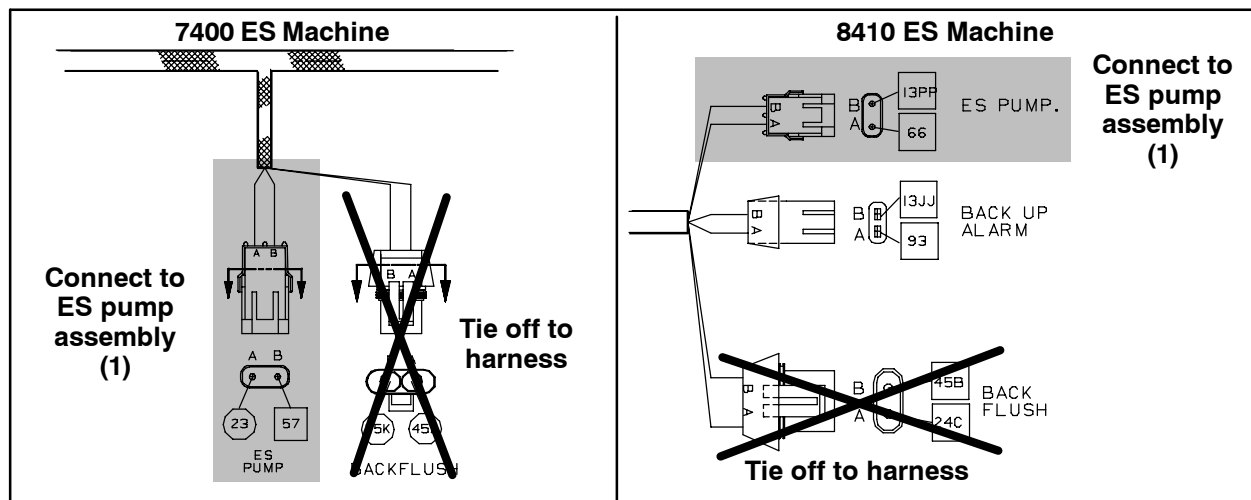
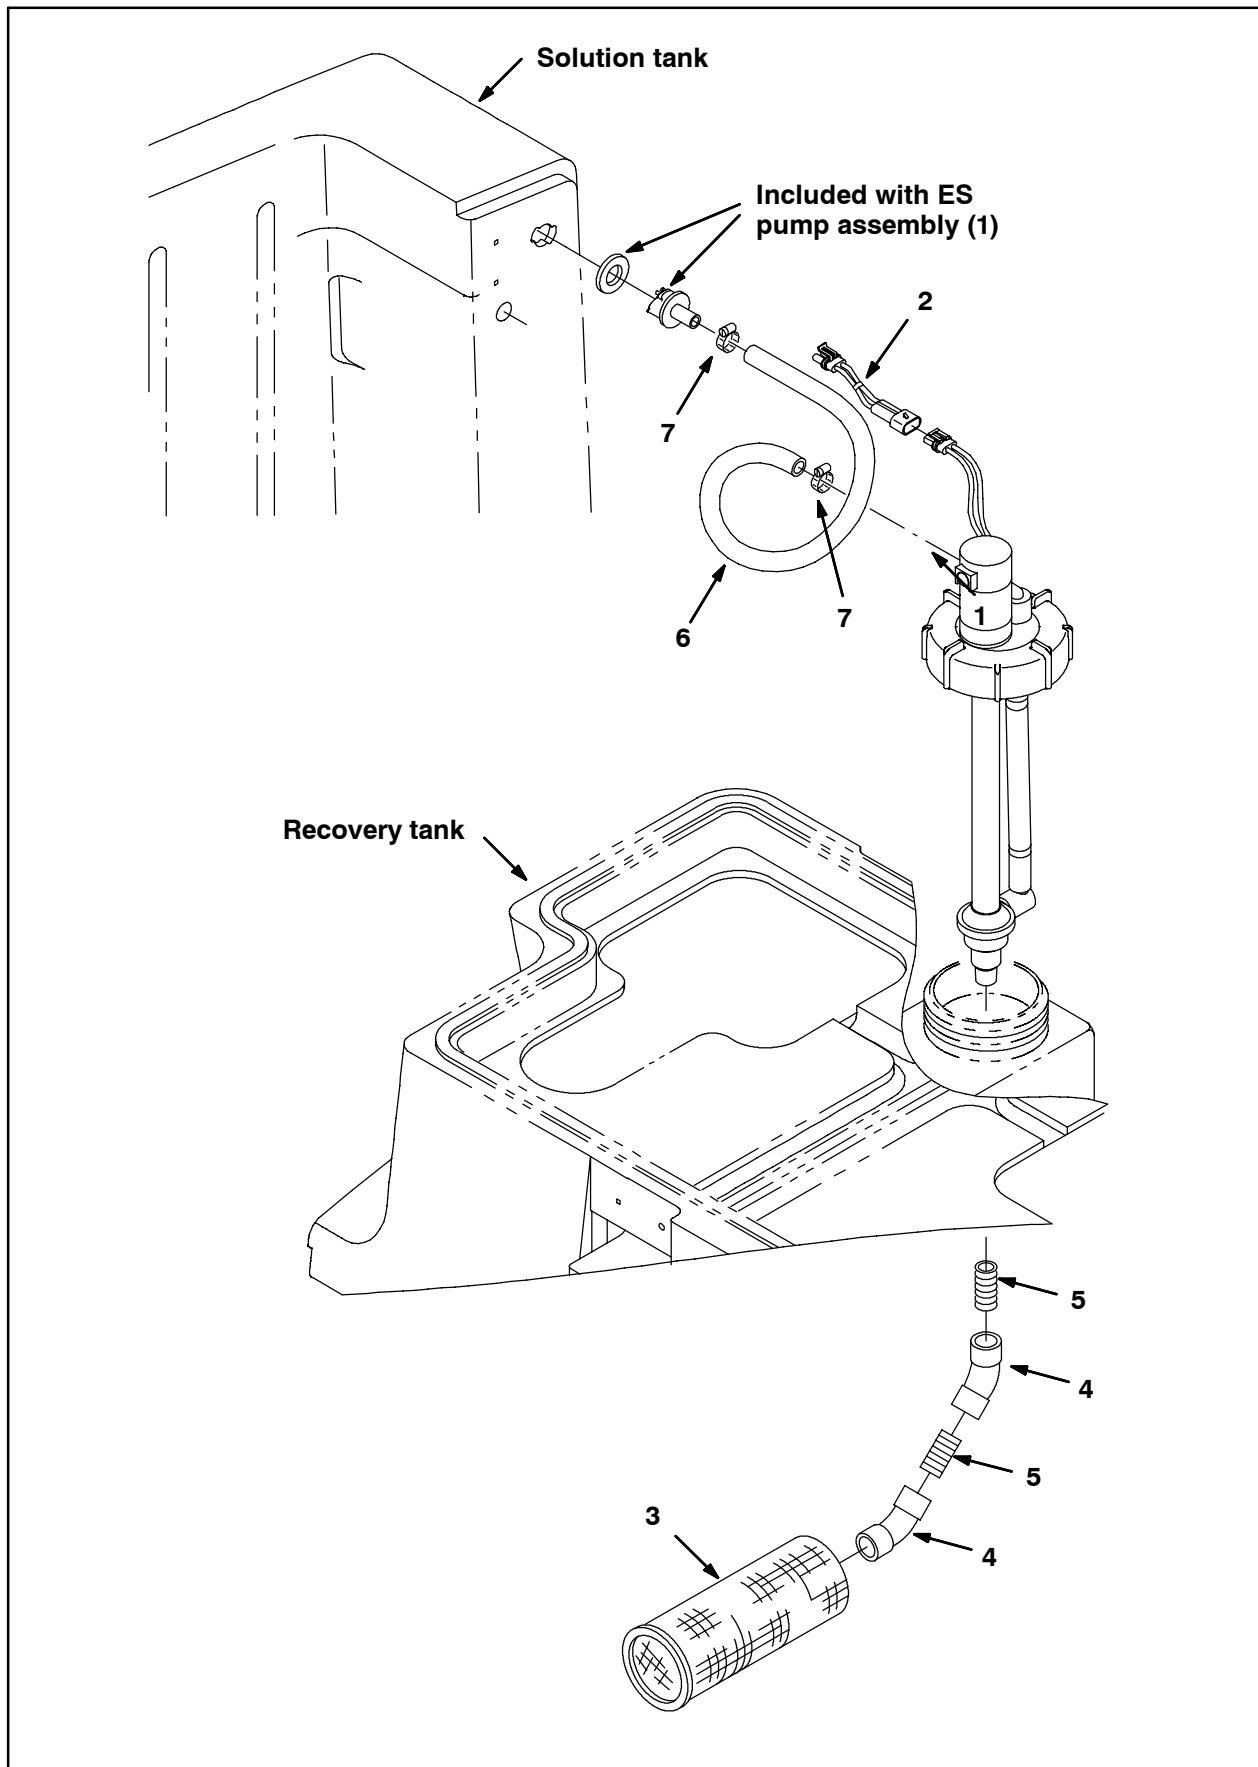
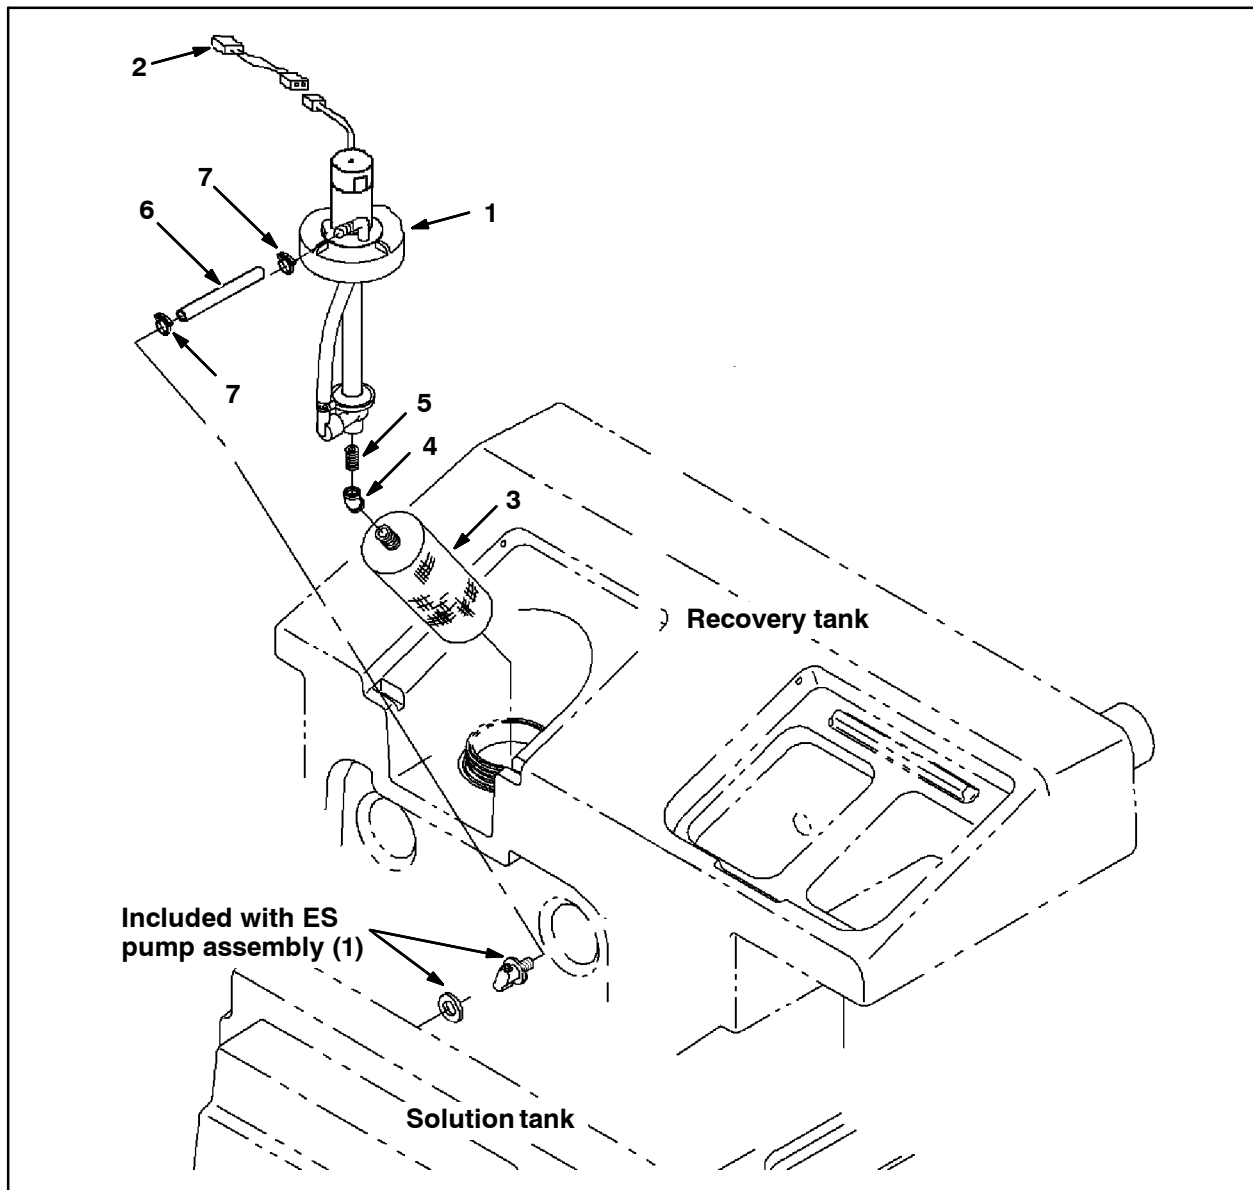

FIG. 2
FIG. 3-7400 ES Machine
FIG. 4-8410 ES Machine
1. Disconnect the main wire harness from the existing ES pump (A). Refer to Fig. 2.
2. Tie off the back flush connector located on the main wire harness so the connector is out of the way. The back flush connector is not used on the new ES pump assembly. Refer to Fig. 2.
**NOTE:** Refer to Fig.3 for 7400 ES machines and Fig. 4 for 8410 ES machines.
4. **7400 ES only:** Install two 45° plastic fittings (4) and straight plastic fittings (5) onto the new ES pump assembly (1).
- 8410 ES only:** Install one 45° plastic fitting (4) and straight plastic fitting (5) onto the new ES pump assembly (1).
5. Install the solution strainer (3) onto the 45° plastic fitting (4) installed in the previous step.
6. Thread the new ES pump assembly (1) into the port in the recovery tank where the old ES pump assembly was previously located.
7. Use a hose clamp (7) to attach the PVC hose (6) to the new ES pump assembly (1).
8. Install the gasket from the ES pump assembly (1) onto the valve from the ES pump assembly (1).
9. Insert the valve/gasket from the ES pump assembly (1) into the hole in the solution tank where the valve/gasket from the old ES pump assembly were previously located.
10. **8410 ES only:** Stretch the PVC hose (6) from the ES pump assembly to the valve from the ES pump assembly (1) and cut excess length from the hose.
11. Use a hose clamp (7) to attach the loose end of the PVC hose (6) to the valve from the new ES pump assembly (1).
12. Connect the pump jumper harness (2) to the ES pump assembly (1).
13. Connect the other end of the pump jumper harness (2) to the main wire harness. Refer to Fig. 2.